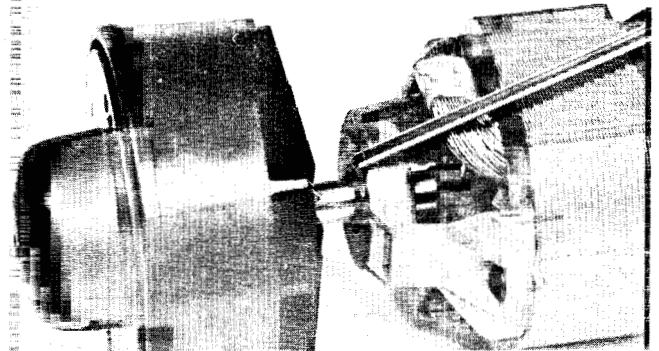

Figure 3.01
3.01 CLEAN HEAD AND TEST (fig. 3.01)